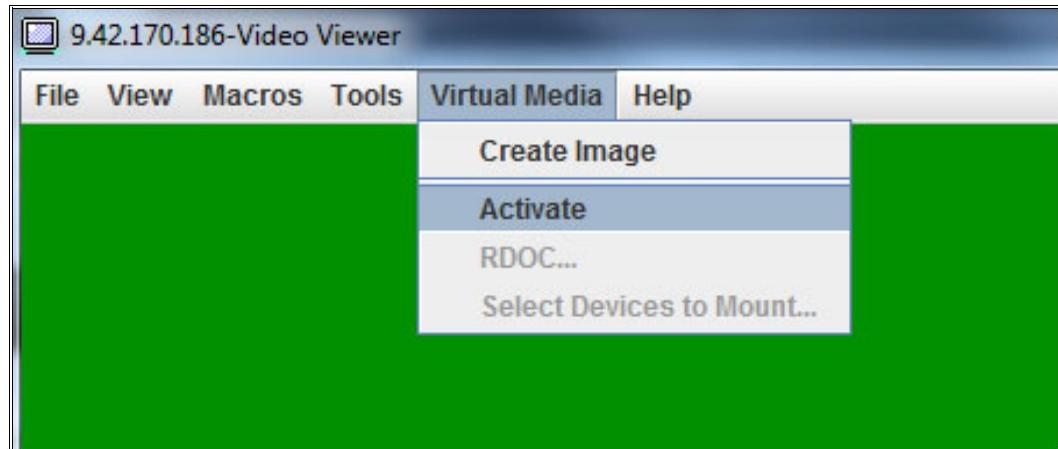

Figure 5-6 Launching virtual media
- To mount an existing image to the remote server as virtual media, enable the Virtual Media function by clicking **Activate** on the Tools drop-down menu that is shown in Figure 5-6.